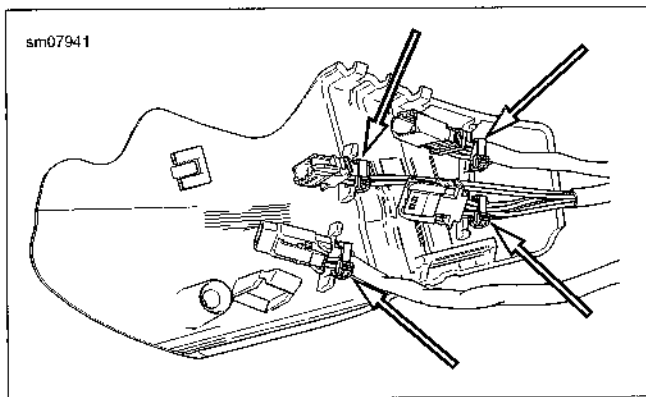

Figure 6-93. Small Backbone Electrical Caddy Cable Straps
1. See Figure 6-93. Cut, remove and discard all cable straps securing wiring harness bundles to small backbone electrical caddy.